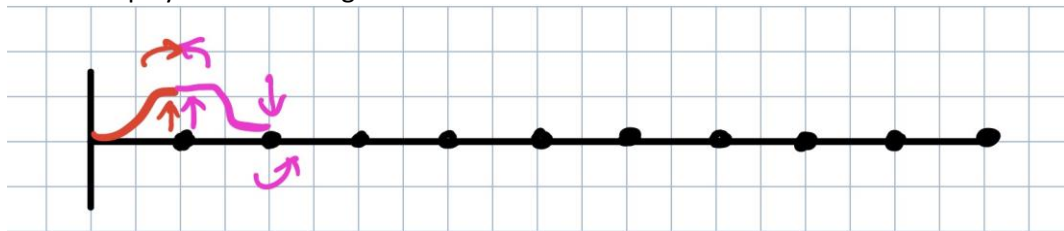

Figure 11: 20 DOF Beam With Displacement Reactions at Node 1
Considering our example system, the Tikka T3X 6.5 Creedmoor rifle, we can develop a mathematical model for barrel position relative to an axis coincident and parallel with the bore centerline by applying the classical equations of motion to a discretized number of segments of barrel length. In this way, each nodal displacement motion may be quantified. It is important to select an adequate number of degrees of freedom for this method of calculation, as too few will result in noticeable error from the discretization. The first iteration for this paper only contained 6 DOF and exhibited approximately 15-20% error when compared to Finite Element Analysis results. Let us consider 10 nodes and thus 20 degrees of freedom, understanding that each node will exhibit displacement and rotation. Utilizing beam displacement and rotation shapes from Tedesco (6), it is possible to develop the stiffness matrix one degree of freedom at a time. Degree of Freedom 1 and reaction moments and loads are displayed below in Figure 11.